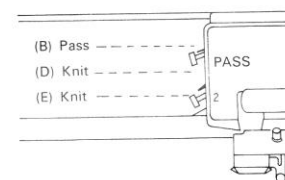

Fig.27
When setting the return cam lever to No.2, needles in position (E) will also knit. (Fig.27)